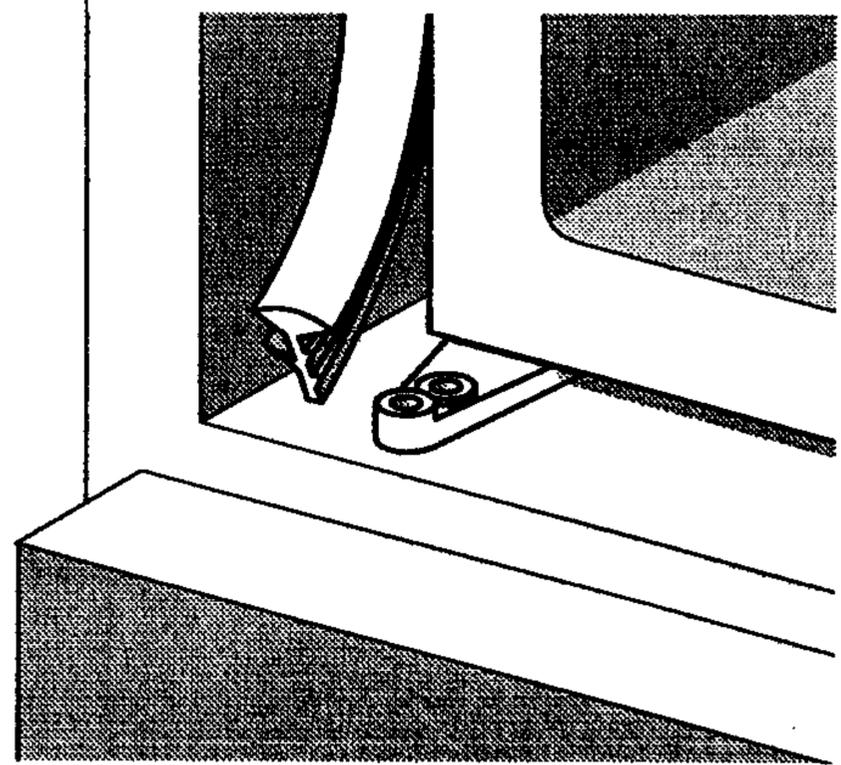

Fig. 6
- ❖ Seal the gap on the opposite side of the hinge with the enclosed seal (Fig. 6).